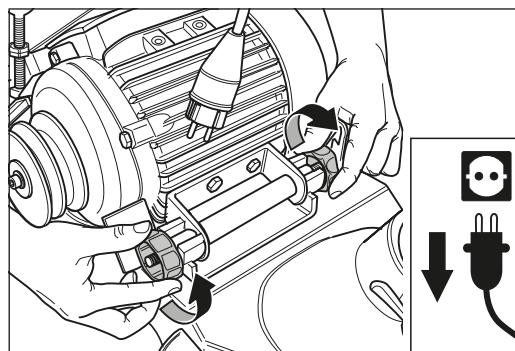

Fig. 49 Loosen the two motor nuts.
- 4 Loosen the two motor nuts at the motor bearing bracket (fig. 49).